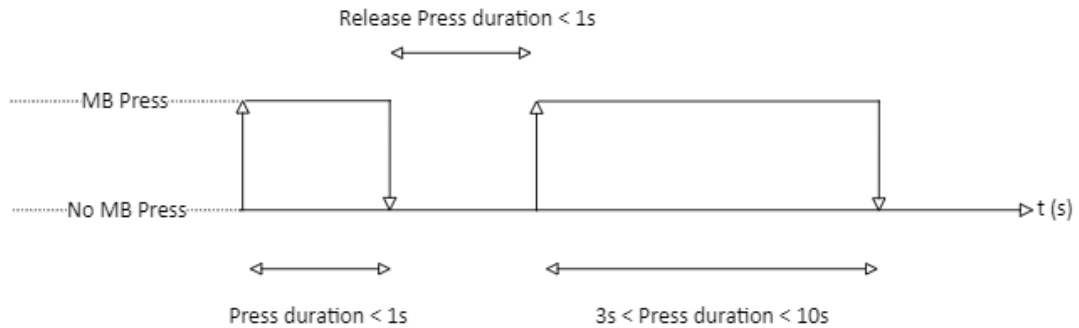

Figure 5-6: Mute Button Press Pattern for Reset and Deep Sleep
2. Reset the SEAL/SEAL Ex: When the press pattern depicted in Figure 5-6 is applied to the mute button during operation (i.e. after a successful Network Join), the SEAL/SEAL Ex initiates a reset.
3. Put the SEAL/SEAL Ex in and out of deep sleep: When the press pattern shown in Figure 5-6 is applied to the mute button during the Join operation, the SEAL/SEAL Ex enters deep sleep mode. Applying the same pattern while in deep sleep mode wakes the SEAL/SEAL Ex up.